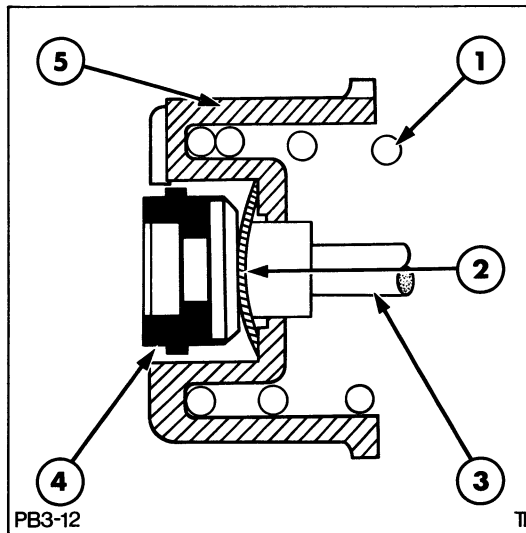

Figure 12
2. Position the curved washer on the valve stem so that it "flares" away from the valve stem shoulder as illustrated in Figure 12.